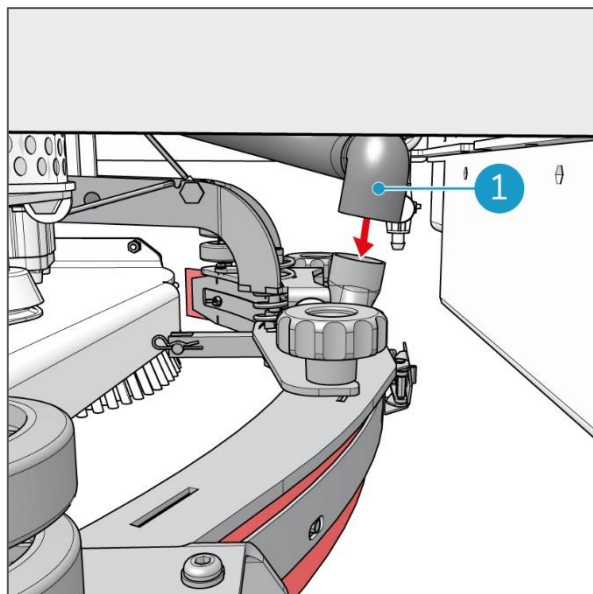

Figure 42
6. Push the vacuum hose onto the hose connector of the squeegee (Figure 42, pos 1).